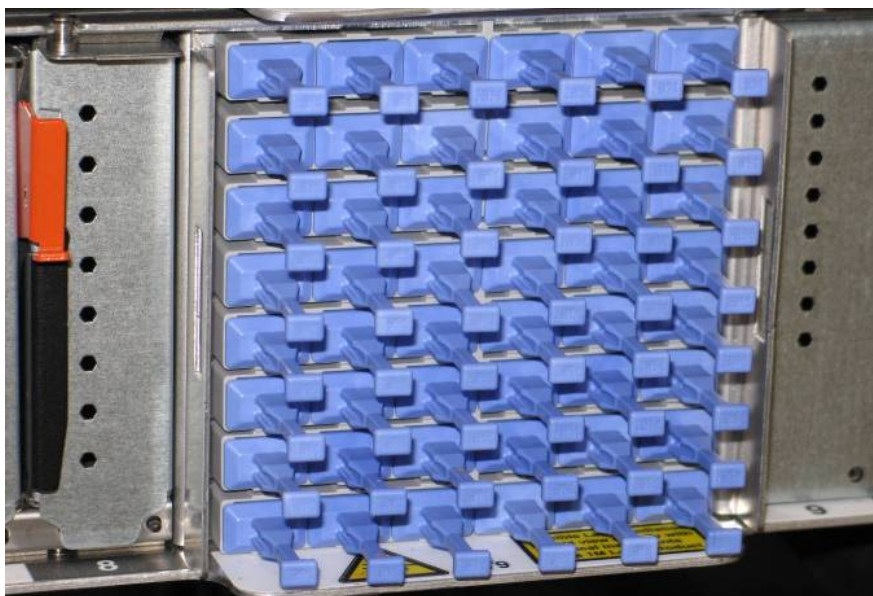

Figure 14 Removable Dust Plugs Inserted in L-Link Ports
- STEP 15 If a new OBE will not be installed immediately, insert a Removable dust plug (IBM PN: 74Y0628, Optical “D” Link Single Plug, Removable) on each of the 192 L-Link ports of the 4 CEC drawers to protect the front faces of the L-Port optical connectors (see Figure 14). Alternately, insert 32 1x6 Gang Dust covers (IBM PN: 45D9902) on the ports.